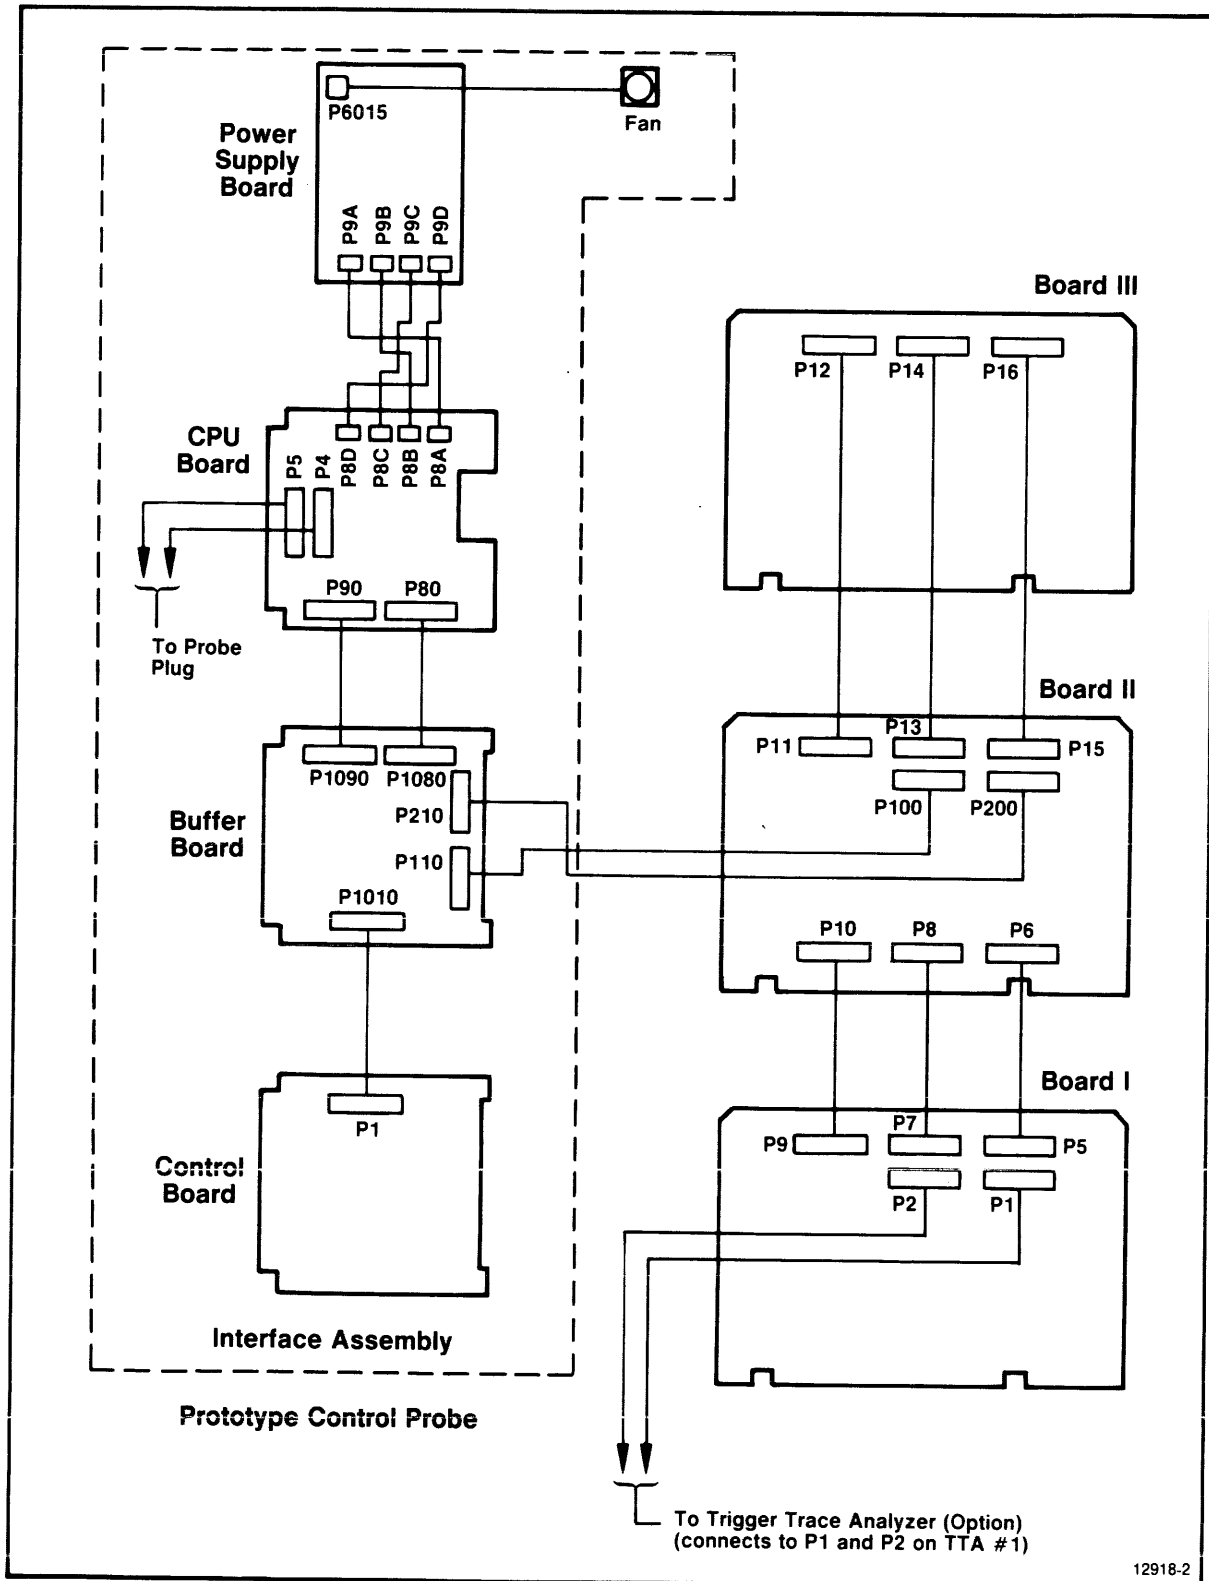

Fig. 6-7. Emulator boards with prototype control probe.
11. Attach the two ribbon cable connectors labeled J100 and J200 to P100 and P200, respectively. Refer to Fig. 6-7. Be sure that pin 1 of each cable connector (blue stripe) and pin 1 of each socket are aligned. Pin 1 of P100 and P200 is to the left when viewed from the component side of the board.
Figures 6-7 and 6-9 shows the connections between the TTA and the 80186/80188 Emulator. To install the TTA with the emulator, perform the following procedure: